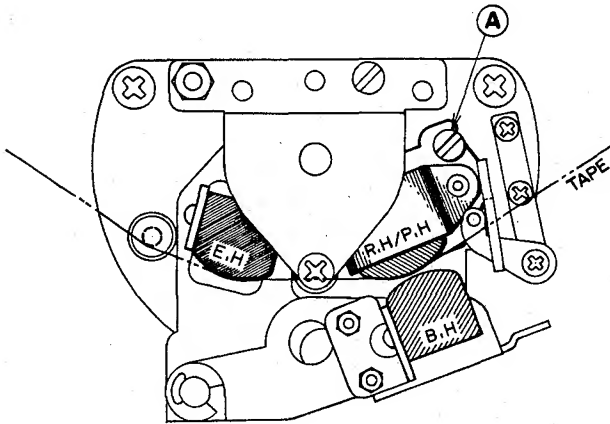
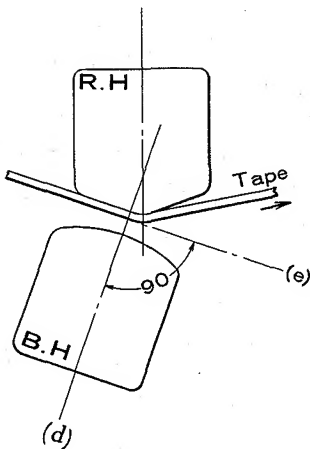

Fig. 2
Fig. 4
- a) Azimuth alignment of the Recording/Playback Head (See Fig. 2)
- b) Angle of the Bias Head (See Fig. 2 and Fig. 4)